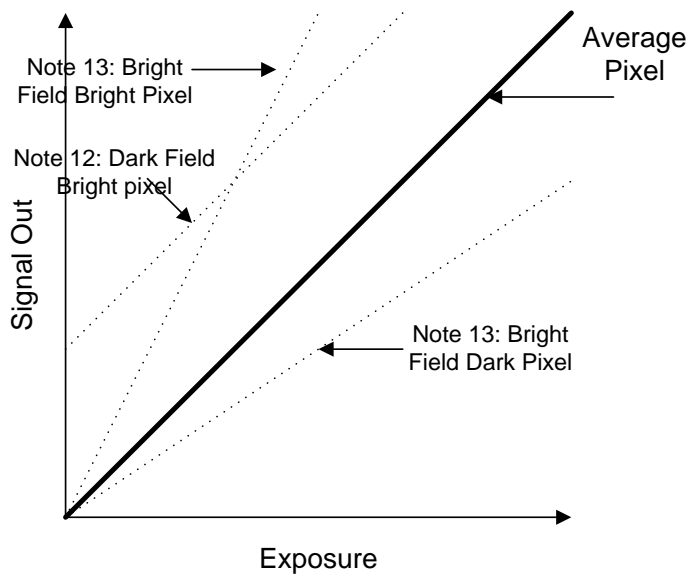

Figure 5: Defective Pixel Classification
12. Pixels whose response is greater than the average response by the specified threshold, (16 mV). See Figure 5.
13. Pixels, whose response is greater or less than the average response by the specified threshold, contained in the high frequency PRNU specification for that channel. See Figure 5.